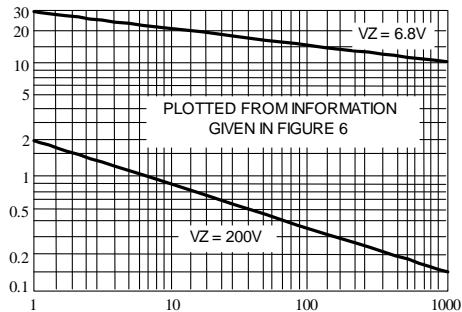

Fig. 6-PEAK SURGE CURRENT VERSUS PULSE WIDTH(SEE NOTE 3)
3. SURGE CURRENT (I_r) - Surge current is specified as the maximum allowable peak, non-recurrent square-wave current with a pulse width, PW, of 8.3 ms. The data given in Figure 5 may be used to find the maximum surge current for a square wave of any pulse width between 1 ms and 1000ms by plotting the applicable points on logarithmic paper. Examples of this, using the 6.8v and 200V zeners, are shown in Figure 6. Mounting contact located as specified in Note 3. ($T_A=25^\circ\text{C}$).